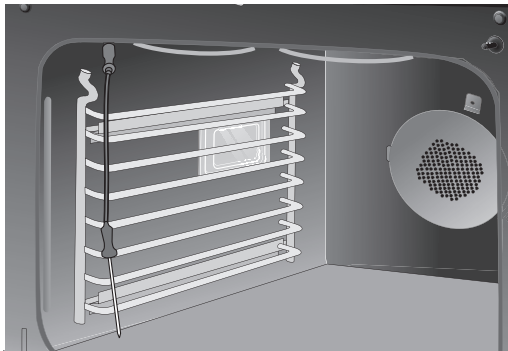

Figure 25: Using the probe
2. Plug the connector end of the probe all the way into the probe receptacle while the oven is still cool. The receptacle is located on the upper left front oven cavity wall (See Figure 25).